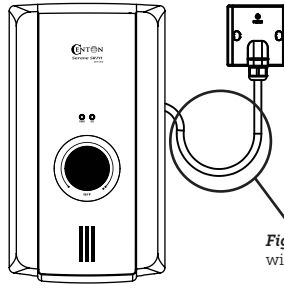

Figure 6 - 'U' curved wiring connection.
7. Maintain a 'U' curved wiring connection between the Splash Proof Connector and the water heater, to prevent water droplets from flowing into the water heater via the cable entry point. (Fig. 6)